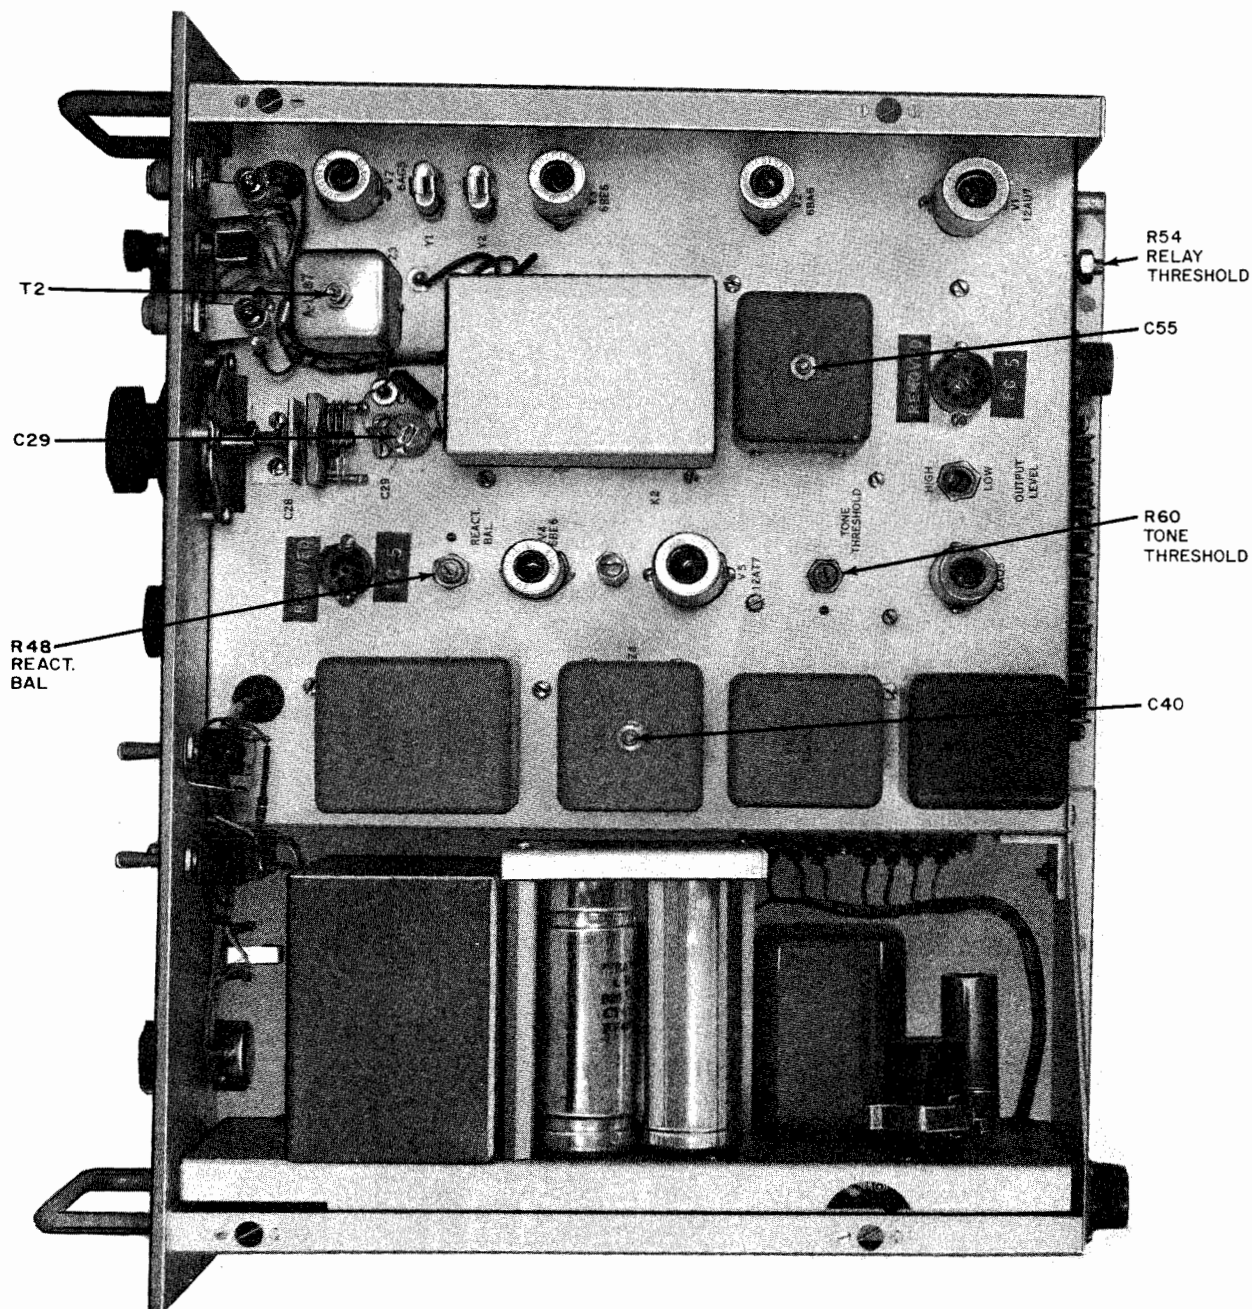

Figure 6-1. Single Sideband Converter CV-591A/URR, Alignment Setup
6.2.1 Alignment of Converter Using a Frequency Counter. The oscillators have been aligned to their correct frequencies at the factory. Readjustment will be required only if the performance of the converter is impaired (i.e., when the bandspread oscillator is off scale with a signal centered on 455 kHz). The oscillators may be aligned with either a frequency counter or with a receiver as the signal source. Refer to figure 6-1 for location of converter adjustment points.
7. Depress SIDEBAND switch so that the lamp on the left of the switch is lit (normally lower sideband (L)).
8. Adjust variable capacitor C29 (figure 6-1) until counter reads 438.000 kHz $\pm$ 15 Hz.
3. Adjust C40 (p/o Z4) (figure 6-1) until counter reads 17 kHz $\pm$ 10 Hz.
12. Compare the counter readings noted in steps 6, 7, 10, and 11. They should be 4 kHz above and 4 kHz below the upper (472.000 kHz) and lower (438.000 kHz) sideband frequencies. If these readings are off more than 500 Hz, adjust REACT BAL control R48 (figure 6-1) for proper balance.
7. Adjust TONE THRESHOLD control R-60 (figure 6-1) to mid range then turn a little on either side of mid range until counter begins to count and adjust for the highest frequency reading on the counter that is stable.
8. Adjust C55 on top of Z5 (figure 6-1) for a reading of 2500 ± 100 Hz.